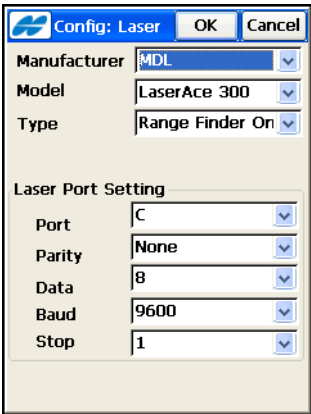

Figure 4-30. Laser Configuration
4. In the *Config: Laser* screen, set the properties for the laser device: a laser manufacturer, the instrument model and type, and laser port settings (see Figure 4-30 on page 4-24). Tap OK.